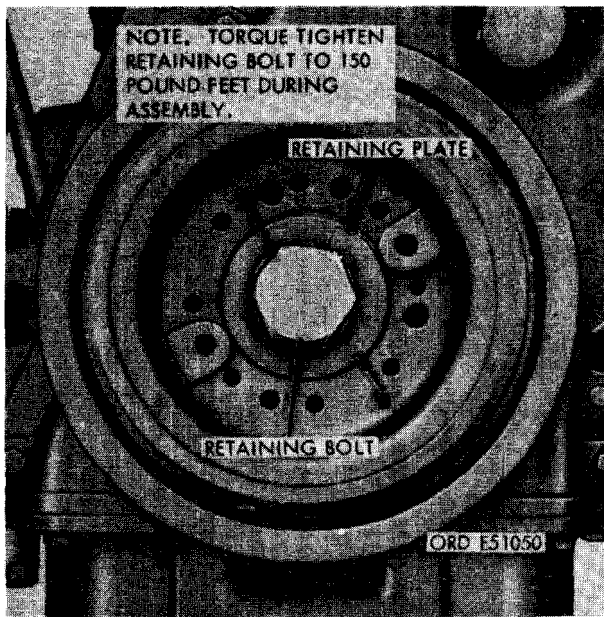

FIGURE 202. REMOVING OR INSTALLING CRANKSHAFT DAMPER AND PULLEY RETAINING BOLT AND PLATE
- (5) Figure 202. (A) Remove crankshaft damper pulley retaining bolt. (B) Remove crankshaft damper pulley retaining plate.
- (2) Refer to figures 202 and 203 and reverse the sequence of illustrations and instructions to install the retaining bolt and the lock plate.